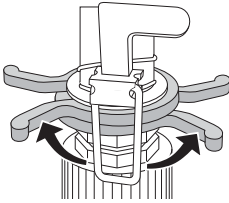

Fig. 6
- ◆ Increase the distance between the two limiter clips ④ to increase the dispersion of the water jet (see Fig. 6).